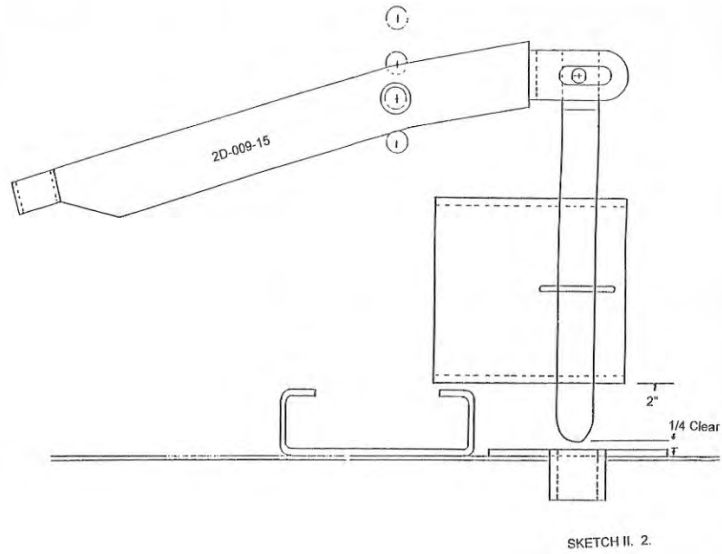

Figure 6
3. Bolt the new arm in place using the selected hole and the previously removed hardware. (Do not forget the bushing.) (See Figure 6)
- B. Tighten the eyebolt until the bottom of the lock pin is  $\frac{1}{4}$ " above the lock receiver. (See Figure 6).